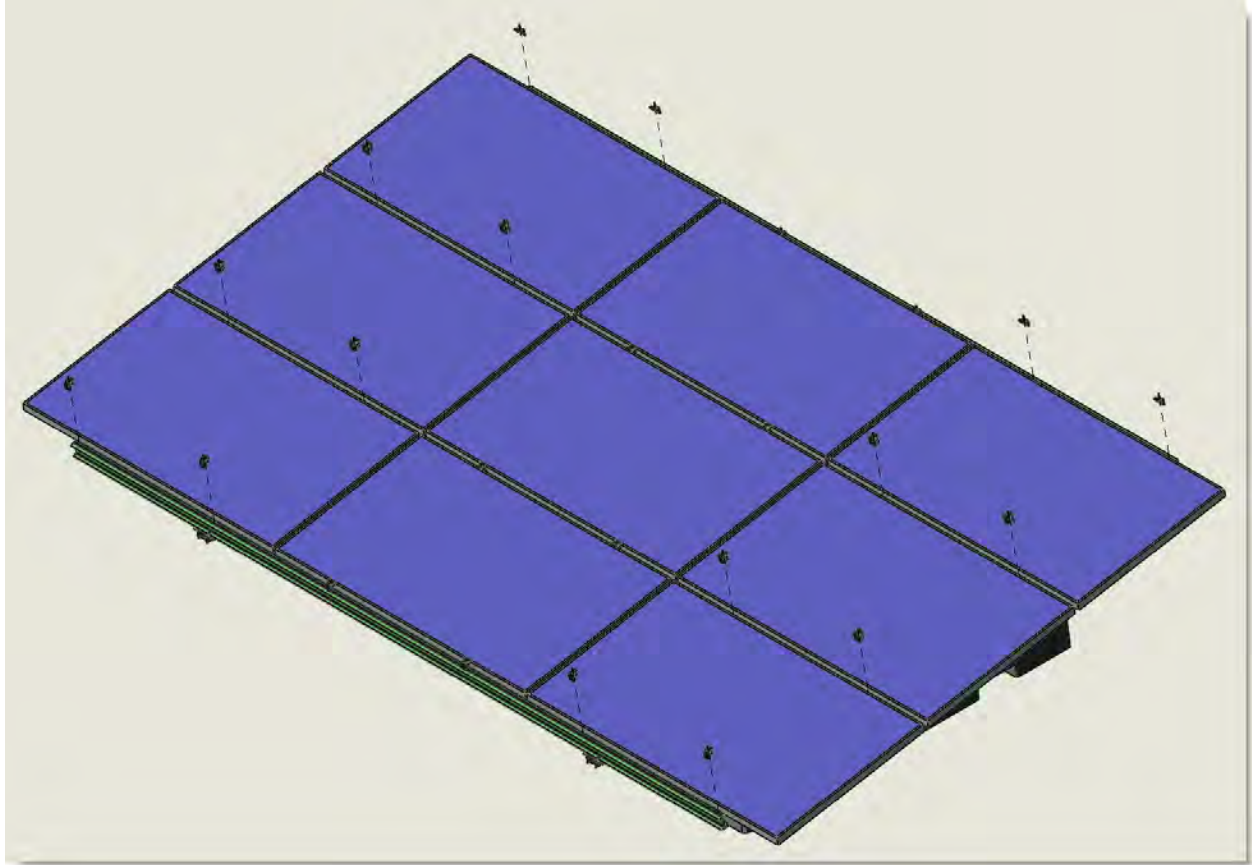
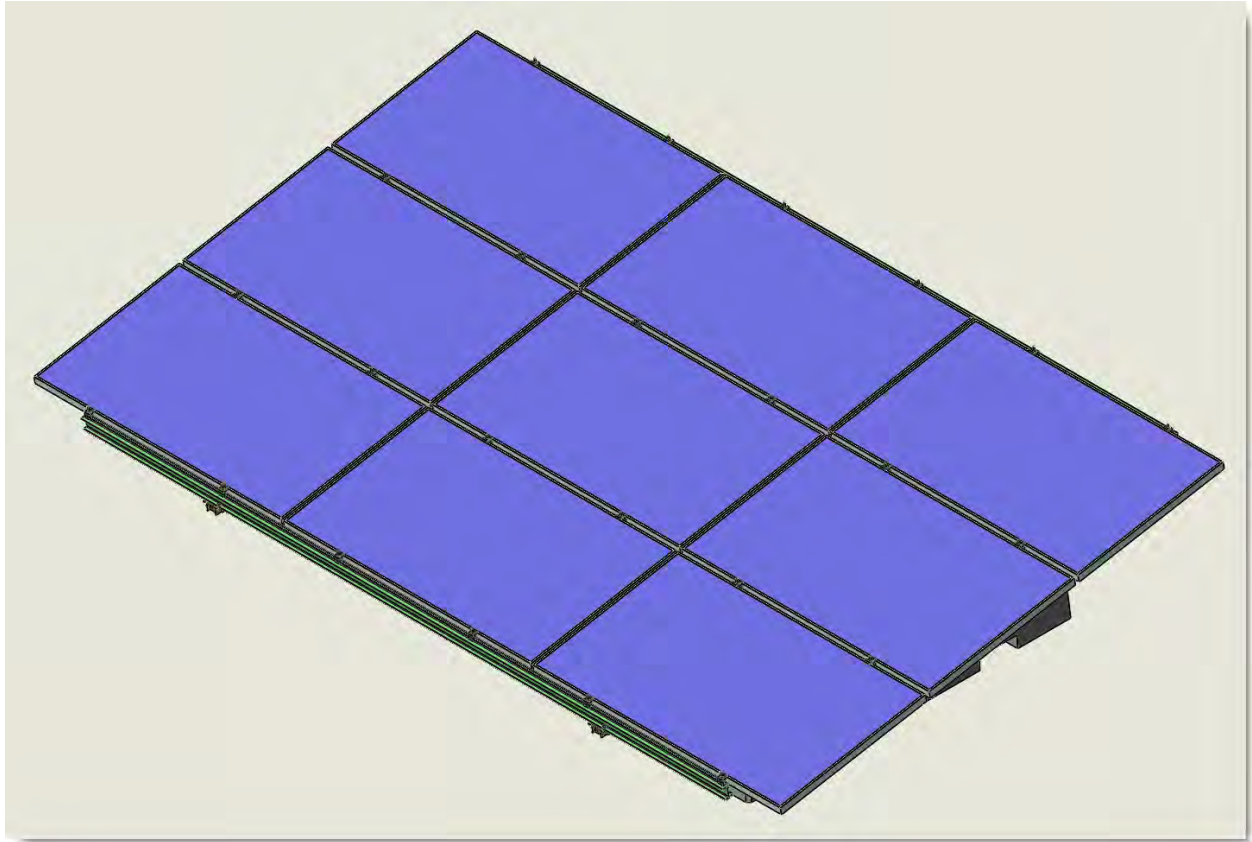

Figure 12
Figure 13
- c. CONTINUE TO INSTALL THE REST OF THE PV PANELS ON THE LEFT AND RIGHT SIDES OF THE RACK. AGAIN, USE THE CLAMPS LISTED IN TABLE 5 TO HOLD THE PANELS IN PLACE. REFERENCE FIGURE 12. THE ASSEMBLED RACK WITH PANELS WILL LOOK LIKE FIGURE 13.